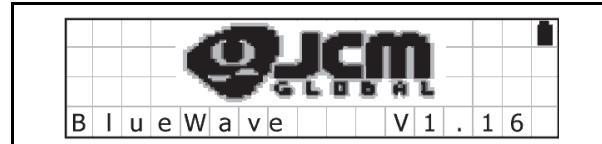

Figure 23 SD Card Confirmation Screen 3
1. Turn the DT-300™ Power Switch ON and an SD Card check will begin (See Figure 23).